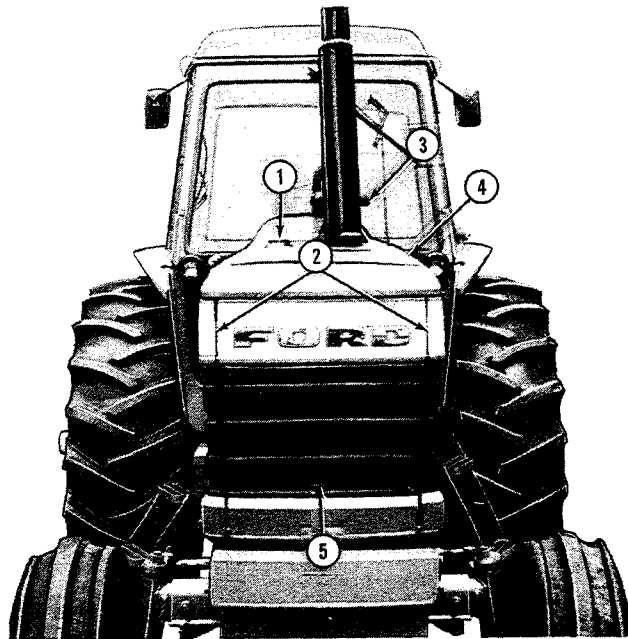

Figure 5
1. Remove the two side panels, grille and hood panel, Figure 5.